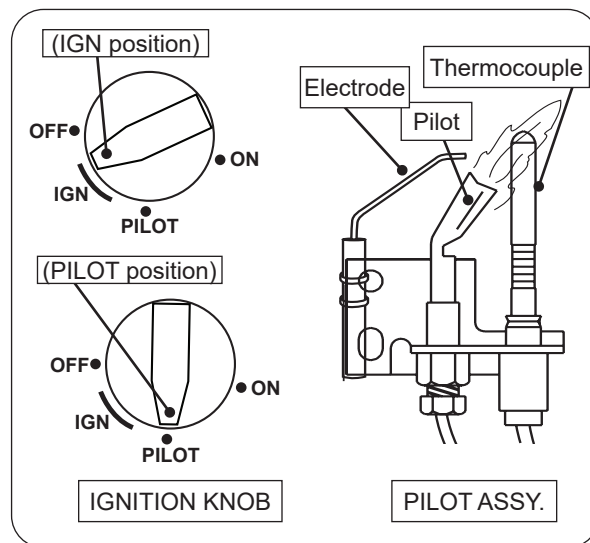

Fig. 30-1 Pilot lighting
3. Locate the pilot assembly on the side or rear of the burner pan (see Fig. 30-1).
5. While still holding the knob in, turn the knob counterclockwise to **PILOT** until you hear a click (piezo igniter will activate and light pilot). Continue to hold the knob in for about one (1) minute after the pilot is lit. Release the knob and it will pop back out. The pilot will remain lit. See Fig. 30-1. If it goes out, repeat steps 2-5.